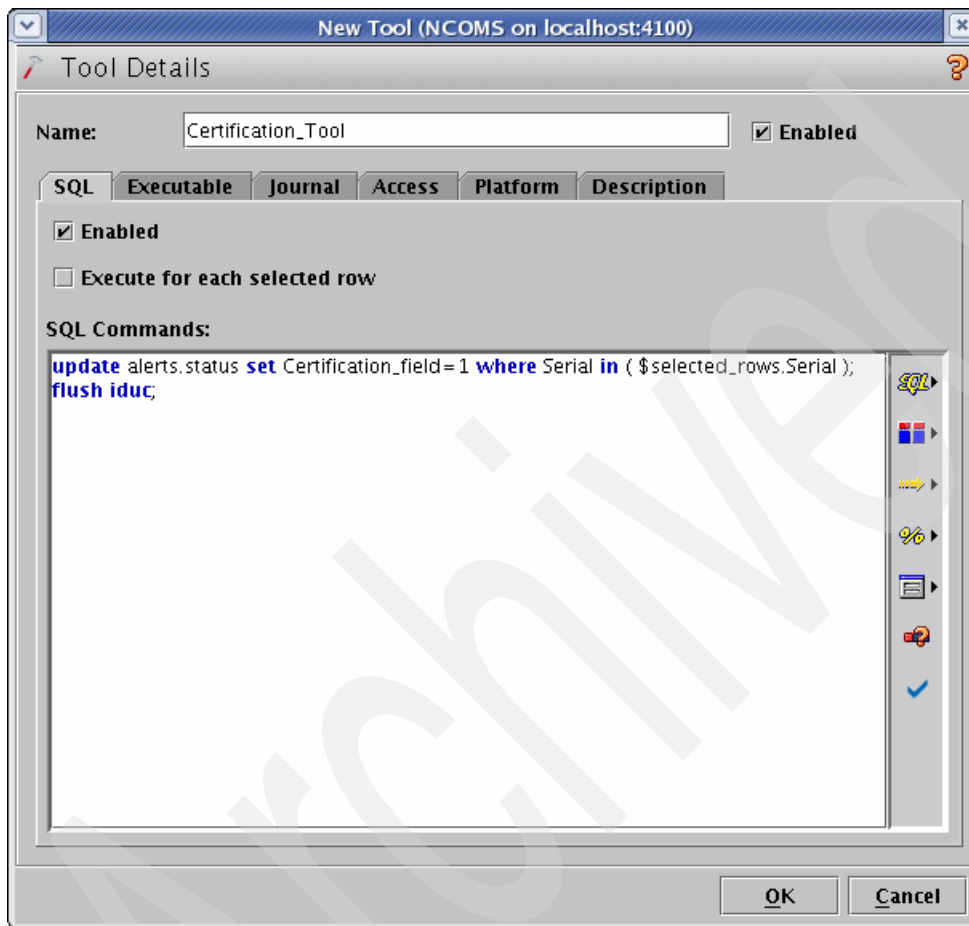

Figure 4-39 Tool creation window
2. In the New Tool window, enter a Name. You can have a tool that executes SQL statements against the ObjectServer database command, as shown in Figure 4-39.